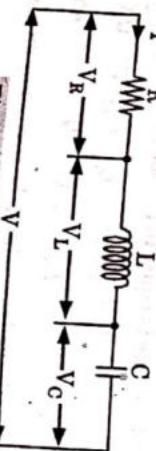

Fig. 2.15.1. Circuit Diagram.
- Consider an AC circuit containing resistance of  $R$  ohms, inductance of  $L$  H and capacitance of  $C$  F connected in series, as shown in Fig. 2.15.1. Let the current flowing through the circuit be of  $I$  amperes and supply frequency be  $\phi$  Hz.